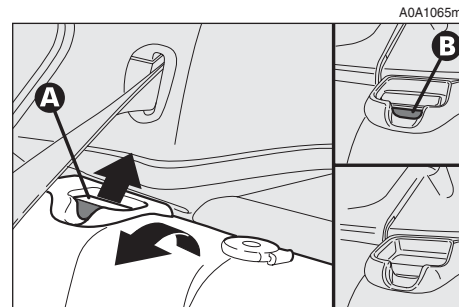
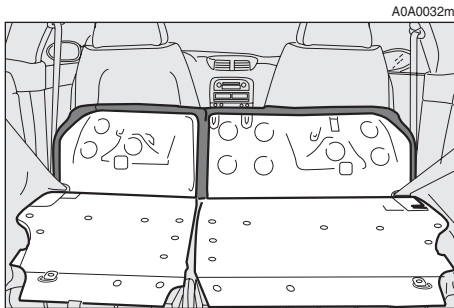

fig. 25
fig. 26
- across between the front seat backs and the tilted cushions of the rear seats when the luggage compartment is completely extended (see **fig. 26**).
– raise the levers (**A-fig. 25**) retaining the back rests and tilt them forwards to obtain a single loading surface (**fig. 26**).
– raise the lever (**A-fig. 25**) retaining the back rest and tilt.
- raise the back rests and push them backwards until you hear them click into position, then check that they are locked correctly by making sure that the “red band” (**B-fig. 25**) on the lever top side is no longer visible. If this “red band” is still visible it means that the seat is not locked correctly;